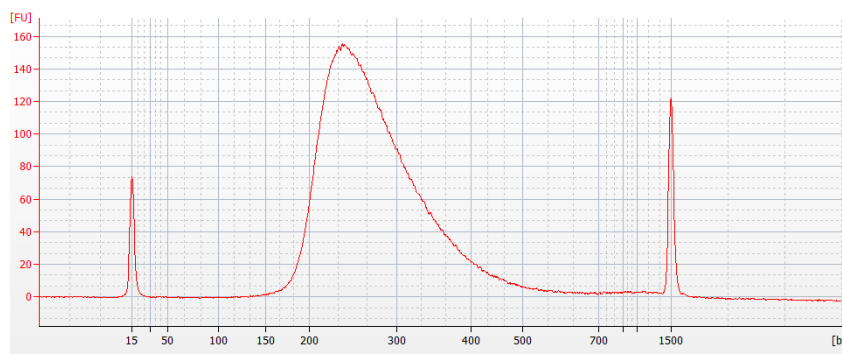

Figure 7 Analysis of amplified library DNA using a DNA 1000 Bioanalyzer assay.
- 7 Verify that the electropherogram shows a distribution with a DNA fragment size peak of approximately 225 to 275 bp. Determine the concentration of the library DNA by integrating under the peak. A sample electropherogram is shown in Figure 7.